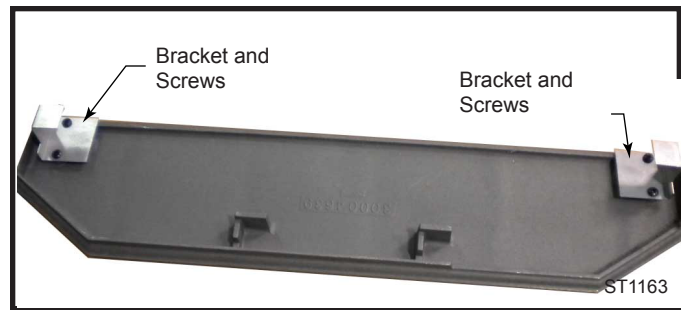
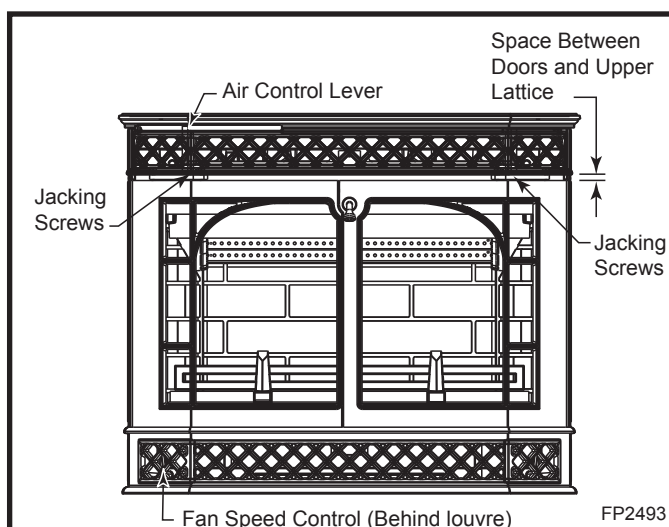

Fig. 8 Secure bracket to mantel with two (2) Philips screws.
Fig. 9 Merrimack Large Insert controls.
4. **Route the blower power cord.** Run the power cord out the left or right side of the insert. Remove the two (2) louvre doors (Fig. 9) or access doors. Remove the screw and washer from each side holding the ashlip
- 5. Install Mantel and Access Door.** For enamel units: Remove the prepackaged mantel and install the two (2) brackets to the underside of the mantel using four (4) 1/4-20 x 3/8" Phillips head black screws already installed in the mantel. (Fig. 8) The brackets can be found in the stove. Remove the screws and use to attach the brackets. For classic black units: Remove the tie strap holding the mantel in place. The brackets are already attached to the mantel. Unwrap the two (2) pre-assembled access doors and snap into place. If the spacing between the doors and upper lattice is not even, you can pull the doors mantel off and adjust the upper lattice. Screw the two (2) jacking screws that contact the front up or down as needed. (Fig. 9)
All Merrimack Large Insert controls are conveniently located on the front. (Fig. 9)
Figure 9 shows the automatic setback control. Move the primary air control lever all the way to the left. Push the primary control about one more inch to the left to open the air shutter (the lever will spring back automatically when released). The shutter will remain open only if the stove is below its proper operating temperature. Once open, the primary air control lever may be adjusted to any desired position. Once the stove heats up to its proper operating temperature, you will hear a clicking sound confirming the shutter has closed. This returns the stove to the output setting of the primary air control.